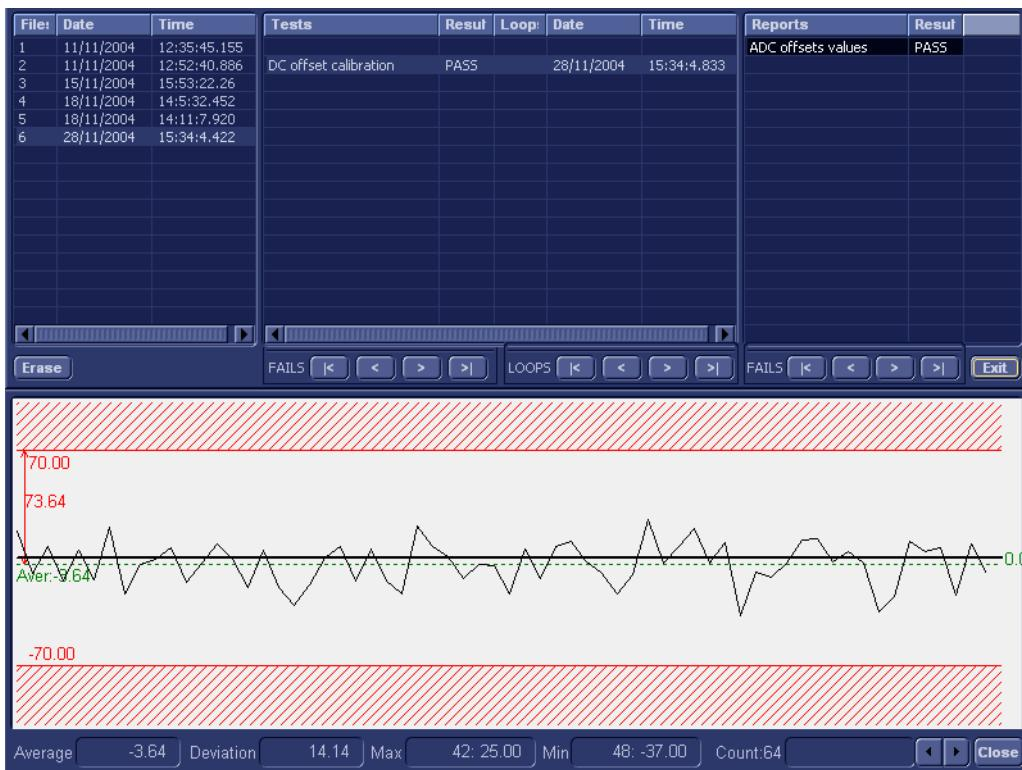

Figure 7-7 View Test Log - DC Offset Calibration
- the *View Test Log* window opens automatically, listing the test performed and showing whether it passed or failed, as shown in the example in Figure 7-7.
- 8.) Use the scroll arrows at the bottom of the Reports window (see Figure 7-7) to scroll through the channels and view the corresponding results.